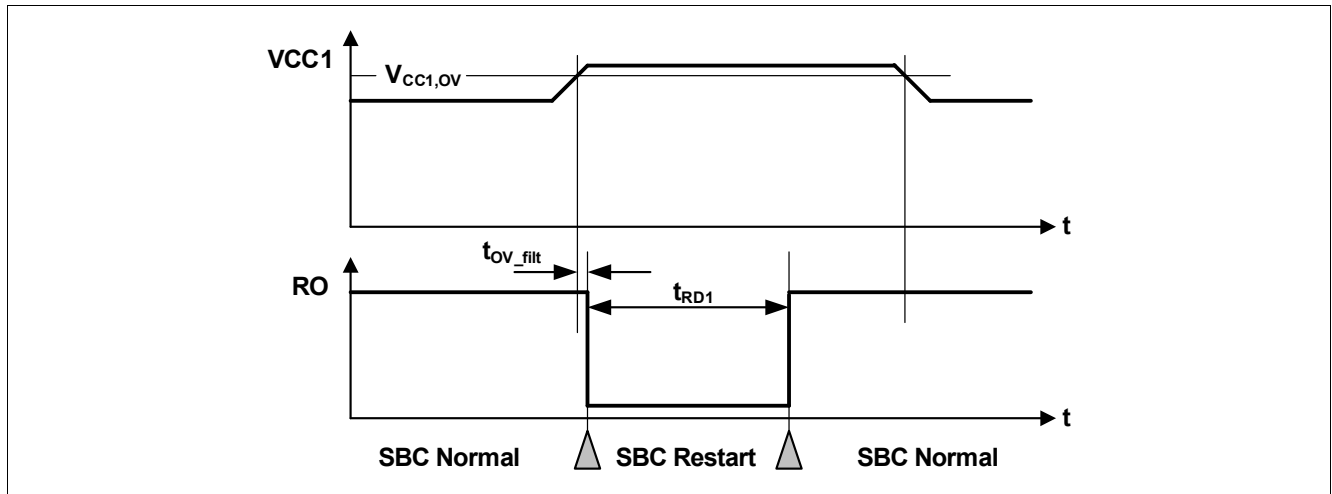

Figure 46 VCC1 Over Voltage Timing Diagram
- If the bit **VCC1_OV_RST** is set and **CFGFP** = '1', then SBC Restart Mode is entered. The FOx outputs are activated. After the reset delay time (t_{RD1}), the SBC Restart Mode is left and SBC Normal Mode is resumed even if the VCC1 over voltage event is still present (see also Figure 46). The **VCC1_OV_RST** bit is cleared automatically;